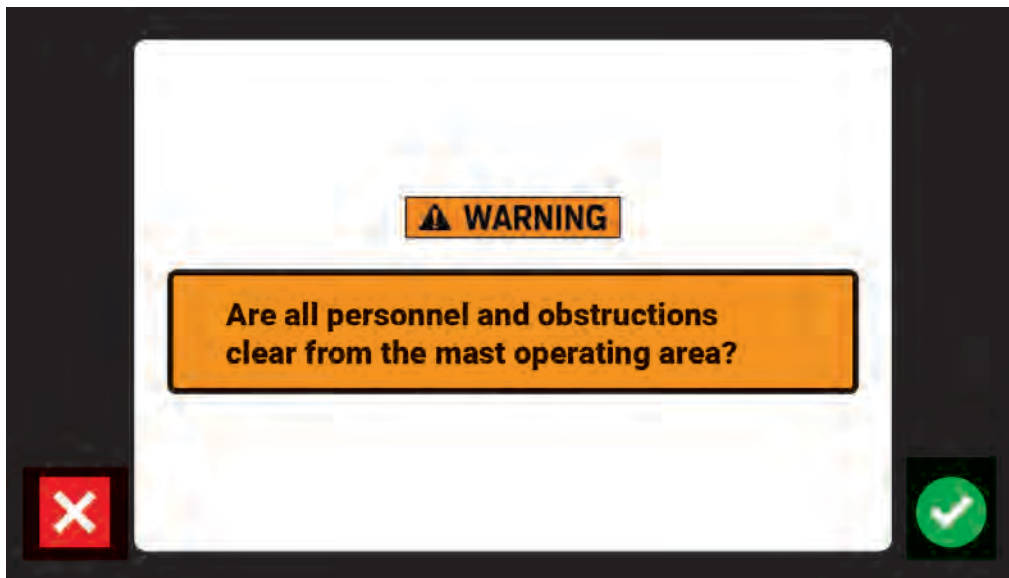

Figure 6-14 Automated Motion Warning Screen
If the retraction method is automated (Auto Stow® feature, “Deploy To” feature, and Presets feature), an Automated Motion Warning Screen will appear asking the user to check for obstructions before operating the mast (Figure 6-14). After ensuring the operation area is clear, press the green check mark button.
2. An Automated Motion Warning Screen will appear asking the user to check for obstructions before operating the mast (Figure 6-14). After ensuring the operation area is clear, press the green check mark button. The mast will now fully retract.
3. An Automated Motion Warning Screen will appear asking the user to check for obstructions before operating the mast (Figure 6-14). After ensuring the operation area is clear, press the green check mark button. If the mast is higher than the “Deploy To” height, the mast will now retract to the entered height.
3. An Automated Motion Warning Screen will appear asking the user to check for obstructions before operating the mast (Figure 6-14). After ensuring the operation area is clear, press the green check mark button. If the mast is higher than the Preset height, the mast will now retract to the chosen preset height.